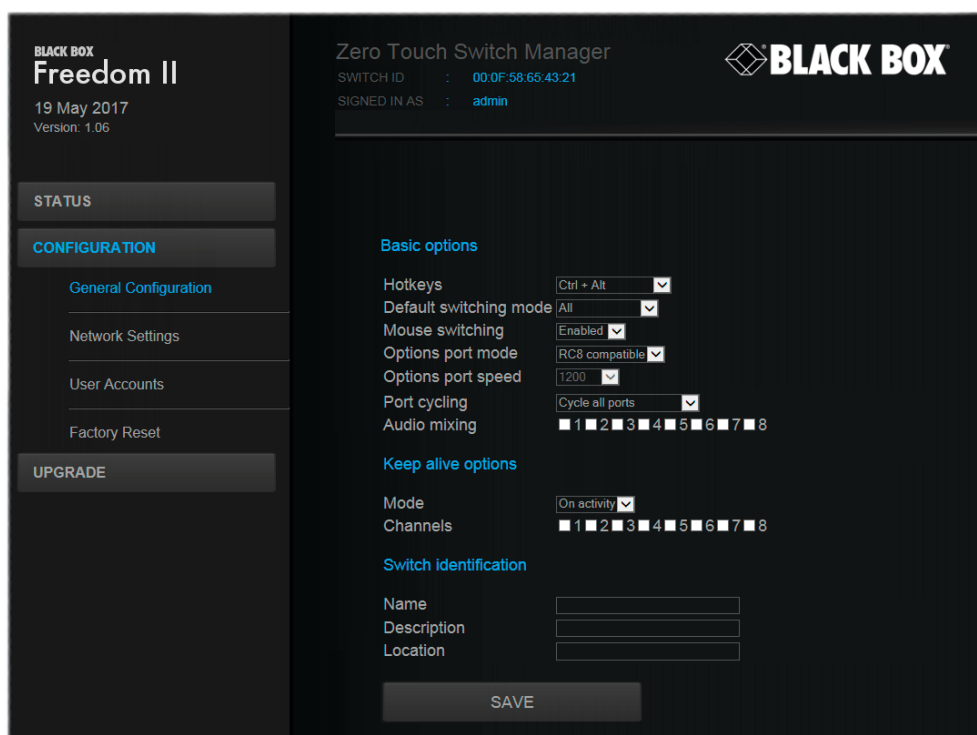

Figure 4-3. The General configuration page
- 2 On the left side, click the **Configuration** button. See Figure 4-3.